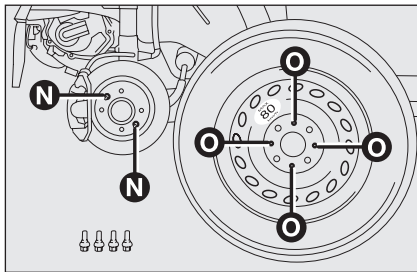

fig. 8
- fit the space-saver spare wheel matching one of the wheel holes **O** with pins **N**-fig. 8;